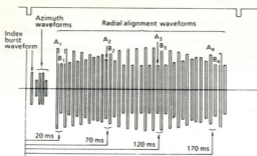

Fig. 5.3 Alignment Waveform (DAD)
(4) Watch the output waveforms for sides 0 and 1. They should appear as shown in Fig. 5.3.
(5) Measure the timing levels A1 to A4 and B1 to B4 in Fig. 5.3, and calculate the lobe ratio from the following formulas.